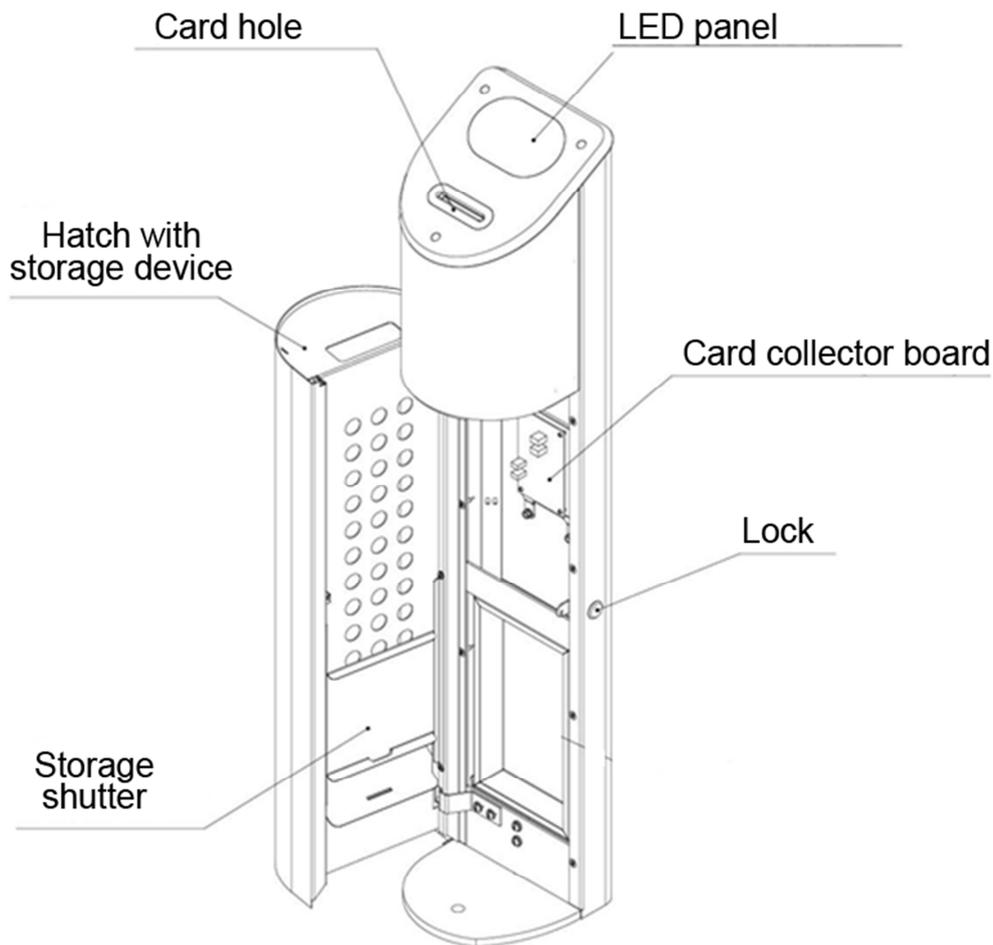

Fig 5. *General view of card collector*
Card collector (Fig. 5) is designed for collection and storage of proximity access cards at the exit from the facility. Flexible logic of the controller allows the integration of the card reader with any access control systems.
7.3.1. Open the hatch lock of card collector with a key (Fig. 5).
- Open the hatch of the card collector using the key (Fig. 5);